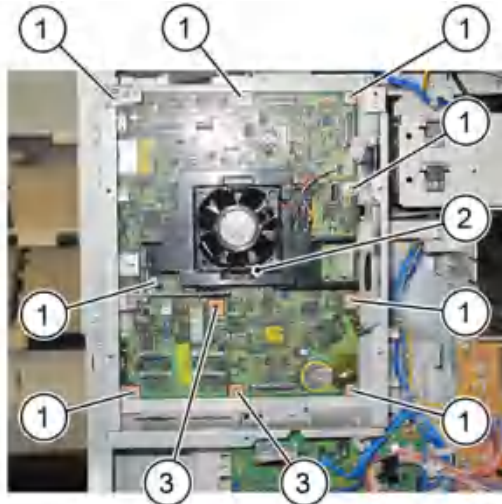

Figure 12 ESS PWB removal
13. Remove the ESS PWB, **Figure 12**:
- a. Remove eight screws (1).
- b. Remove the ESS fan (2).
- c. For machines without an HDD, remove both screws (3).